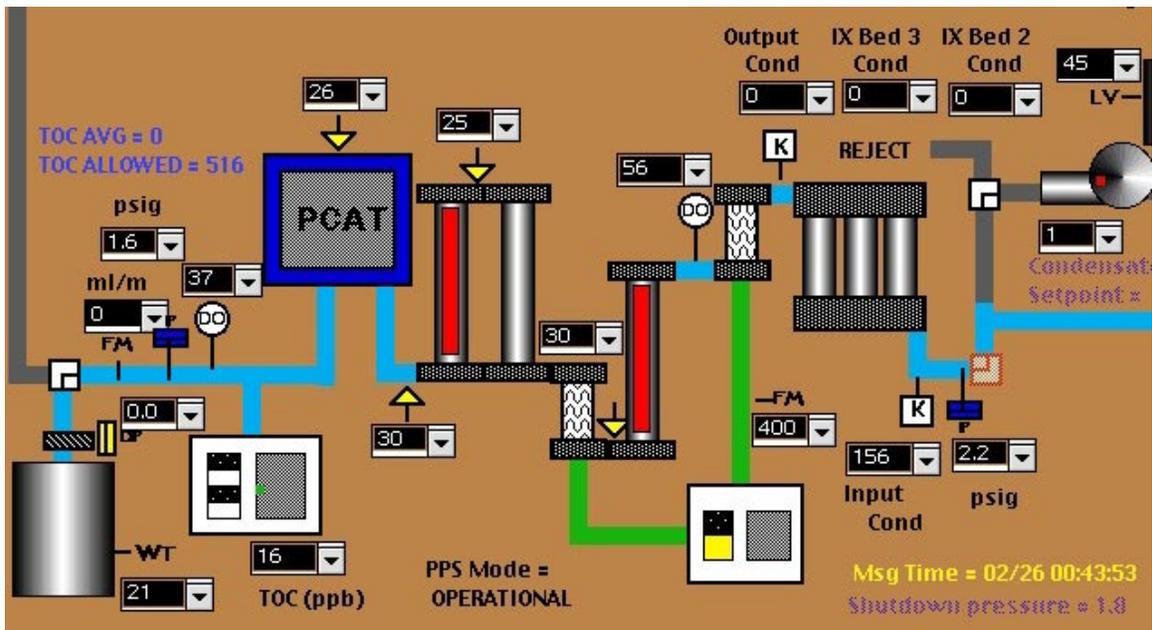

Figure 5 PPS Schematic
The PPS "polishes" the water from the RO and the AES by removing trace inorganic material via ion exchange beds (the trio of cylinders at the left end of Figure 5), and trace organics by oxidizing them with ultra-violet (UV) radiation (the three tall cylinders in the middle of Figure 5). When the input water pressure goes above a threshold that indicates water flow from either the AES or the RO, the O2 concentrator is started and a number of UV lamps are turned on commensurate with the measured total organic carbons (TOC). When the pressure falls below the threshold, the concentrator (white box in the lower right of Figure 5) and lamps are turned off. An average TOC is calculated based on the instantaneous TOC (measured by the Ultra-TOC analyzer -- the white box in the lower left of Figure 5) and the water accumulated in the product tank to determine whether the PPS output should be rejected to the BWP feed tank. ASDs concern overheating of the lamps and high output conductivity, indicating that the resin in the ion exchange beds has been used up.
Pt08 measured output pressure in psig. Pt09 measured input pressure and was used as the key indicator for water flow. There were two set points associated with the input pressure: the first when the output valve (far right in Figure 5) was open to the tank (shown as 1.8 psig in Figure 5) and the other 1.0 psig less than the first (i.e., 0.8) when the valve was open to the BWP feed tank. Dp03 measured the pressure drop across the output filter, but it never read other than 0.
Pw05 through pw06 measured the power in amps for the UV lamps, the instruments and the photo catalytic converter (box labeled PCAT in Figure 5). The PCAT was not used during this test run.
Dp01 and dp02 measure the dissolved O2 as a percentage of water volume at the output of the first membrane contactor (short cylinder just left of the last ion exchange bed in **Figure 5**) and at the output of the TOC analyzer respectively.